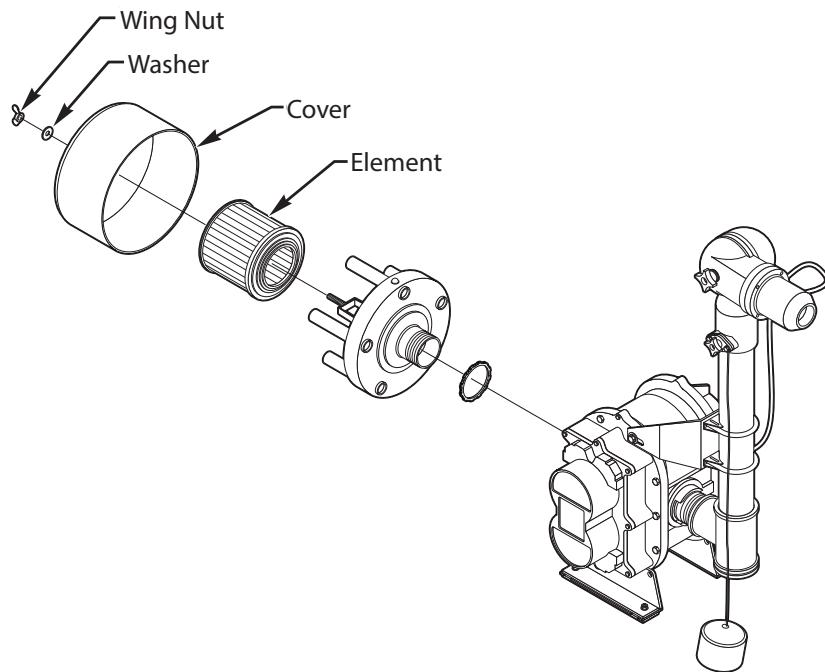

Figure 14 - Filter Element Replacement
- Remove and clean the element in the filter-silencer as follows. Reference Figure 14..
7. Remove and clean the filter-silencer element and housing as explained in the MAINTENANCE section on page 24. Reference Figure 14.